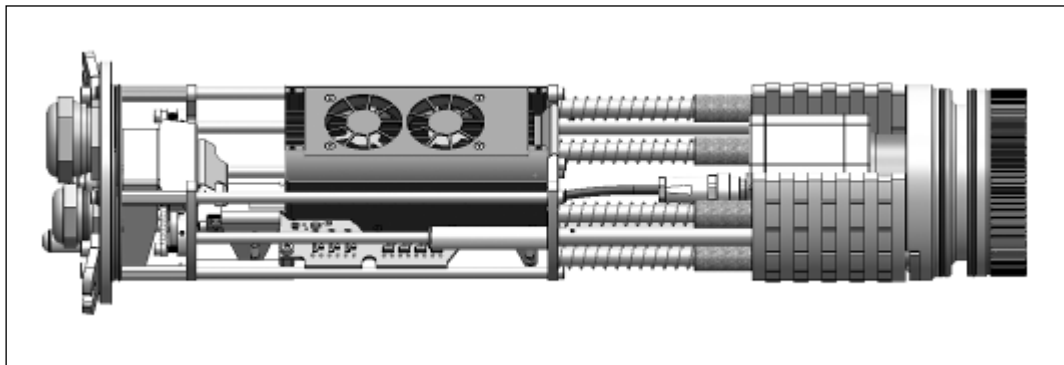

Figure 42: Chassis with PI camera, industrial PIF and PI NetBox
7. Then connect the PI camera and the PI NetBox with the provided USB cable and the Industrial PIF with the camera. Combine the network connector and the PI NetBox (**Figure 42**).